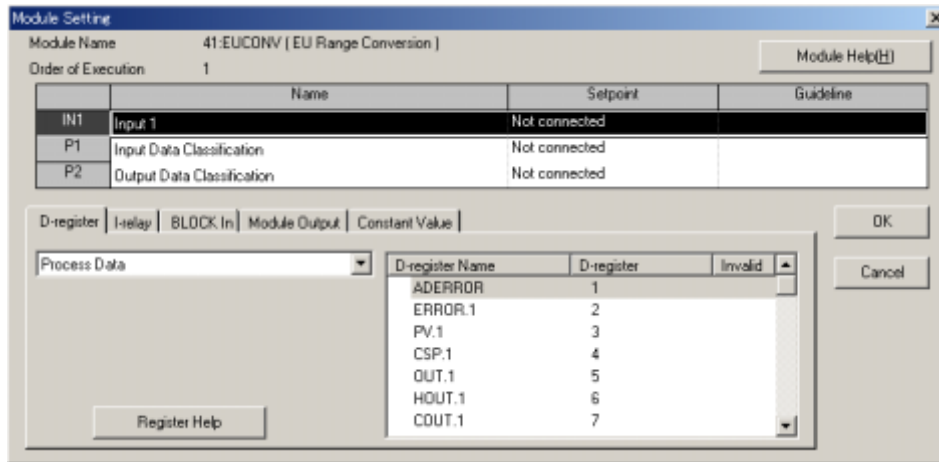

Figure 12.4.6 [Module Setting] Dialog Box
- (1) Click the registered first-run EUCONV module.
- (2) From the tool menus, choose <Edit [E]>, then <Connection>. The [Module Setting] dialog box (Figure 12.4.6) appears.